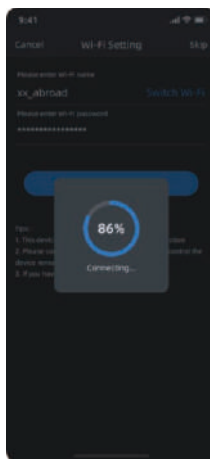

Figure 2
2)Figure 2: WiFi **"Connecting"**, waiting for feedback on connection results;If the connection fails, you can try adding again based on the reason for the failure.